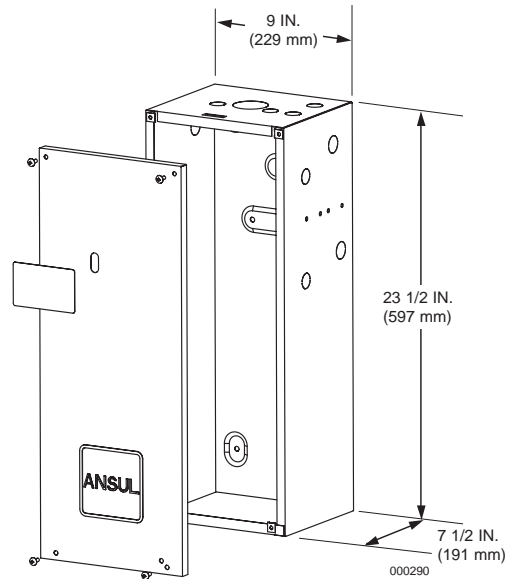

FIGURE 5-4
- a. Select a rigid, vertical surface for mounting the enclosure or bracket. (Keep in mind that the 3 gallon tank is taller than the bracket. (See Figure 5-4) Allow sufficient space for convenient piping and removal).